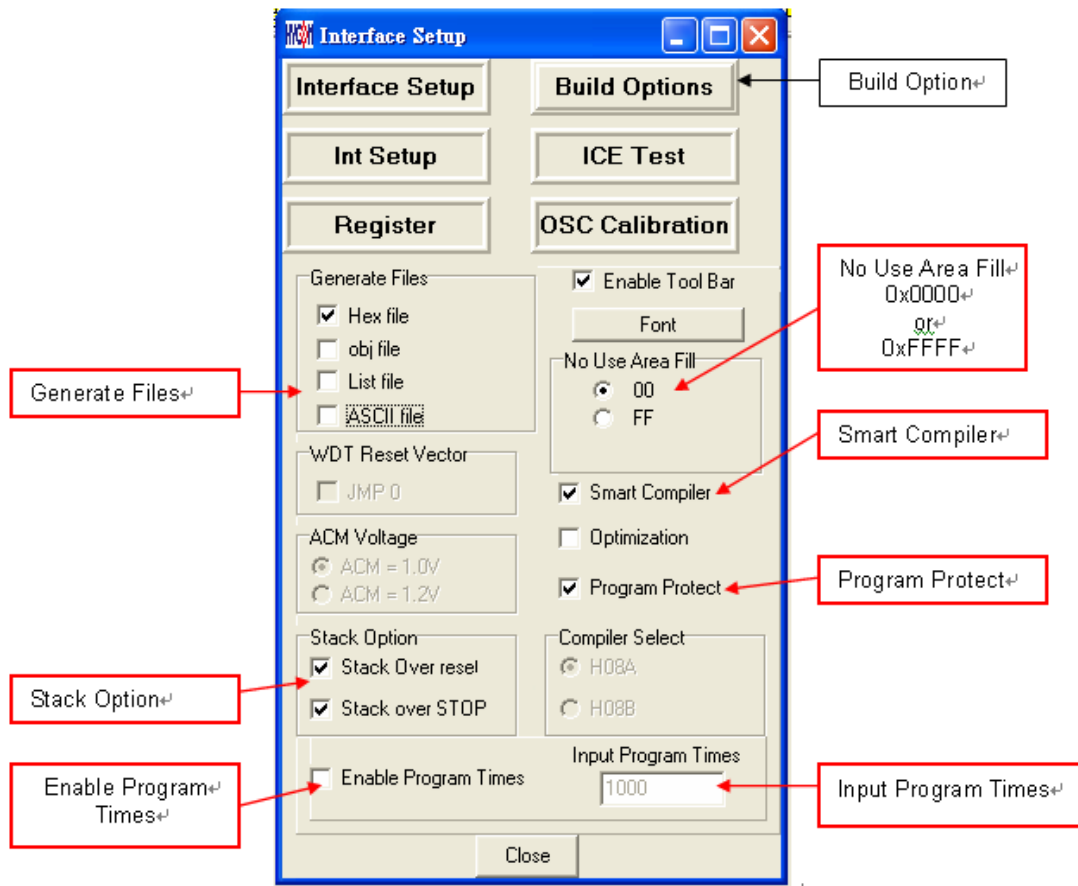

Figure 68
- When command is BCF, BSF, BTSS, BTSZ and BTGF, Byte value will be revealed if the cursor points to the first argument. If the cursor points to the second argument, it will display the specified Bit value (1 or 0) as Figure 68 illustrated.